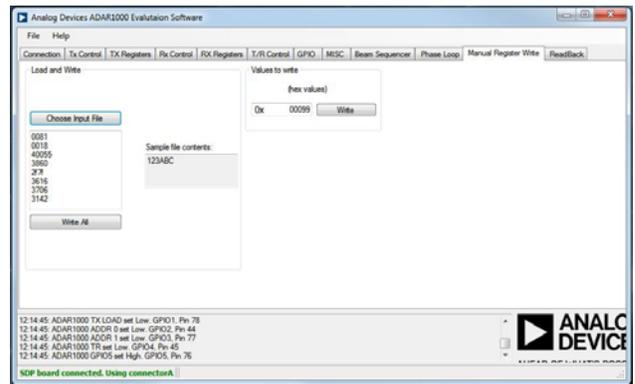

Figure 23. Values to Write
5. The values in the file appear in the larger text box on the left side of the window, as shown in Figure 23.